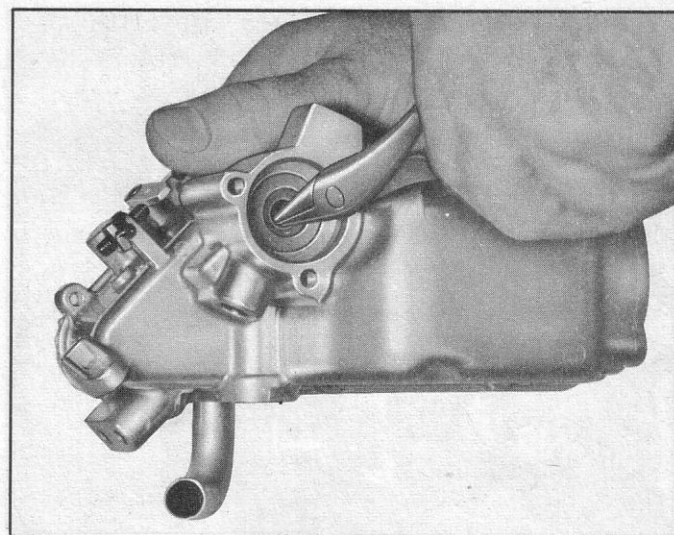

Fig. 64—Removing Spill Plunger Assembly
3. Carefully remove spill plunger and sleeve assembly (fig. 64).